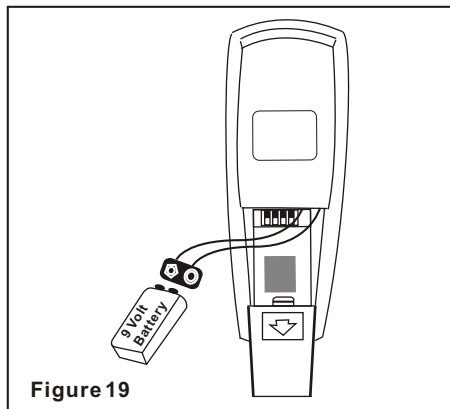

Figure 19
Step 5. Raise the glass shade up against the light plate and secure it to the fan with the light kit stem. (Fig. 19) **DO NOT OVERTIGHTEN.**